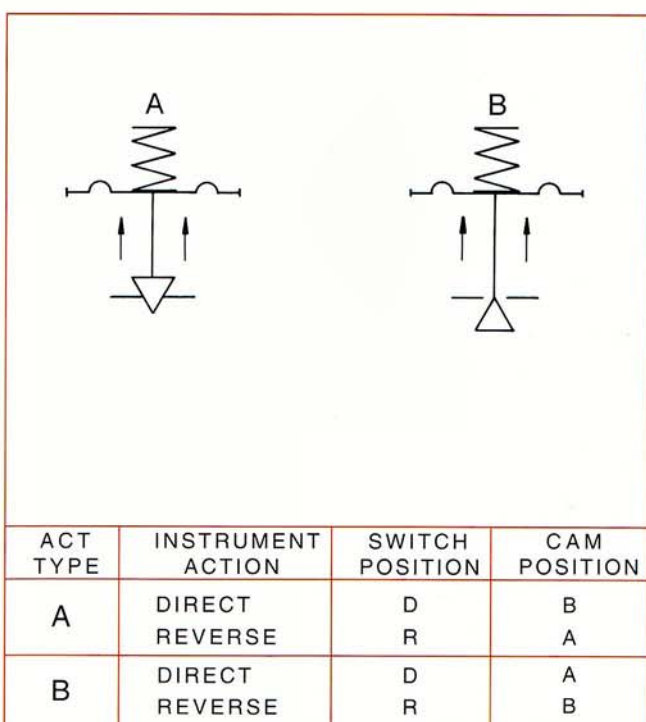

Figure 5.
3. Check positioner action. (See Fig. 5)
4. Check Actuator Action. (See Fig. 5)